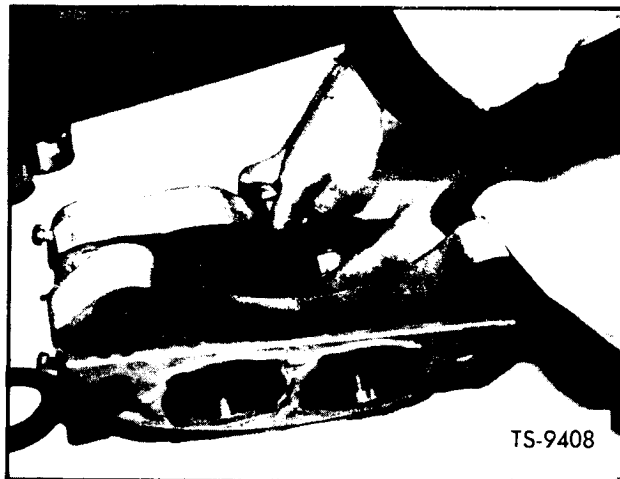

**Fig. 23. Remove Piston Bore Packing**
14. With the aid of a small piece of shim stock or other such device, carefully lift piston bore packings out of groove as shown in Figure 23. Extreme care must be exercised not to damage this seal if its reuse is intended, as any cuts or other abrasions will necessitate replacement of the seal.